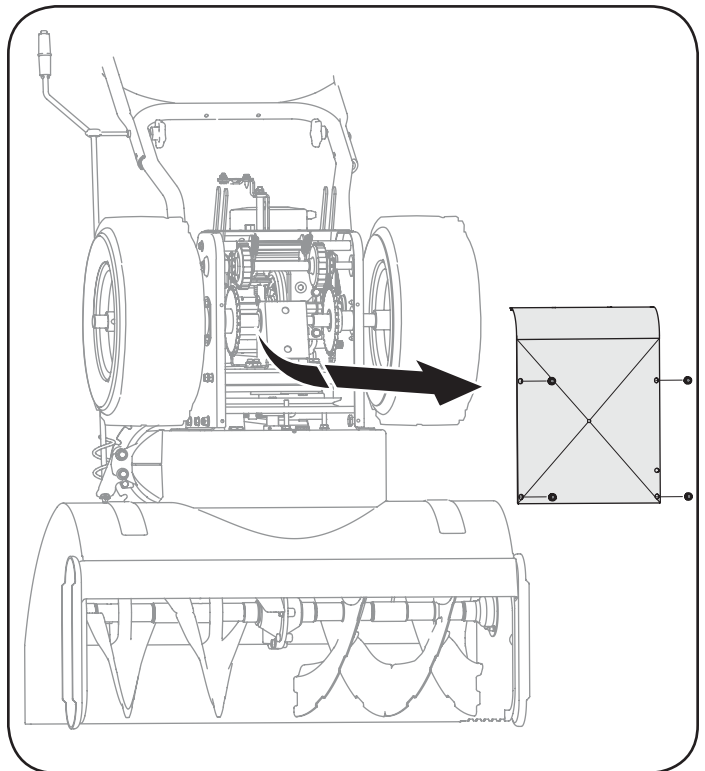

Figure 15
2. Remove the frame cover underneath the snow thrower by removing the self-tapping screws. See Figure 15.